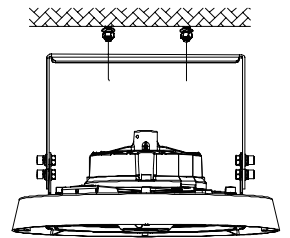
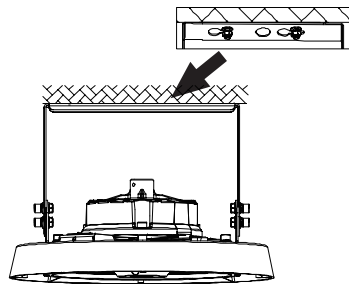

FIGURE 5
FIGURE 6
3. Align the bracket hole with screw hole (Figure 5) and push the fixture to one side (Figure 6) and fix it.